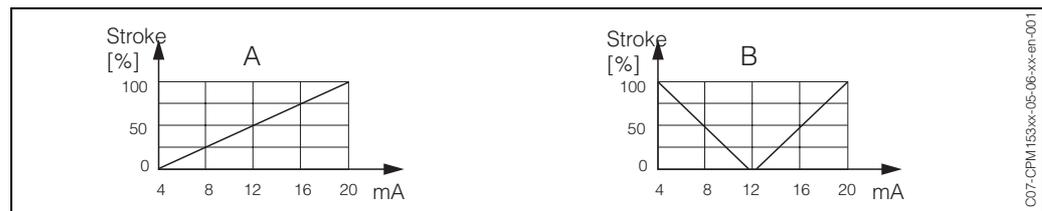

fig. 28: A: Stroke diagram for a control valve
- With a *two-sided* process, the complete actuating variable range from -100% ... +100% is represented on the given current range. A actuating variable of 0% leads to a current of 10 mA (at 0 ... 20 mA) or 12 mA (at 4 .. 20 mA) (see fig. 28).